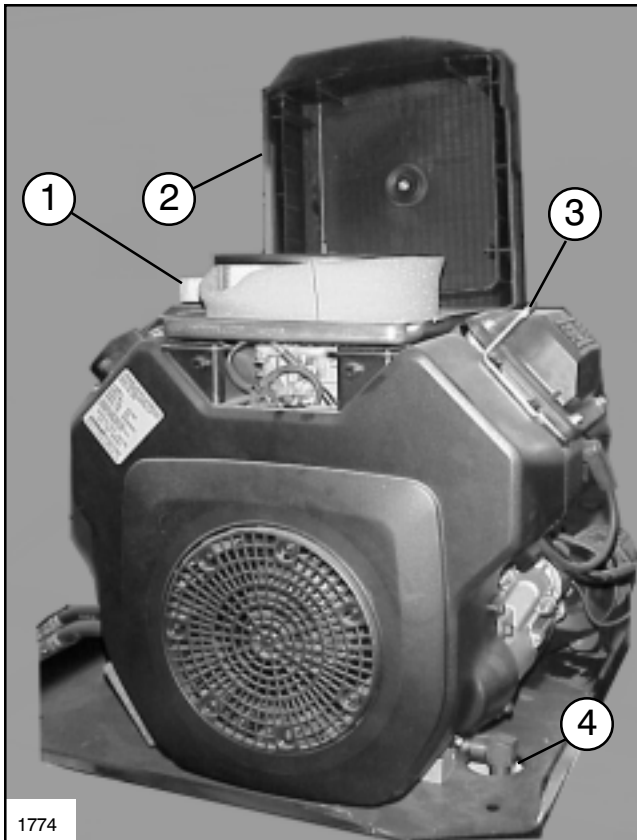
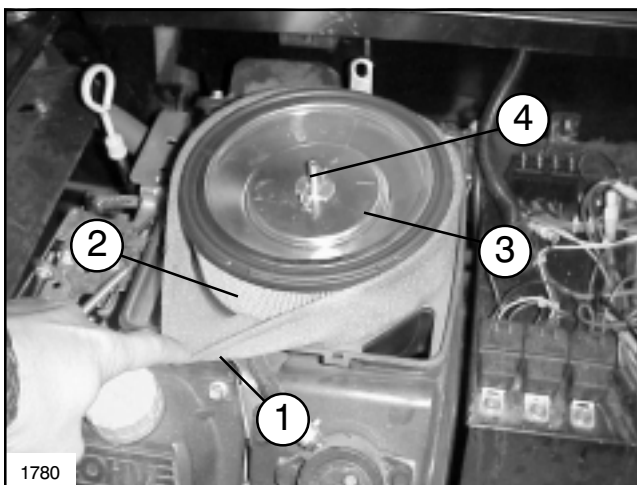
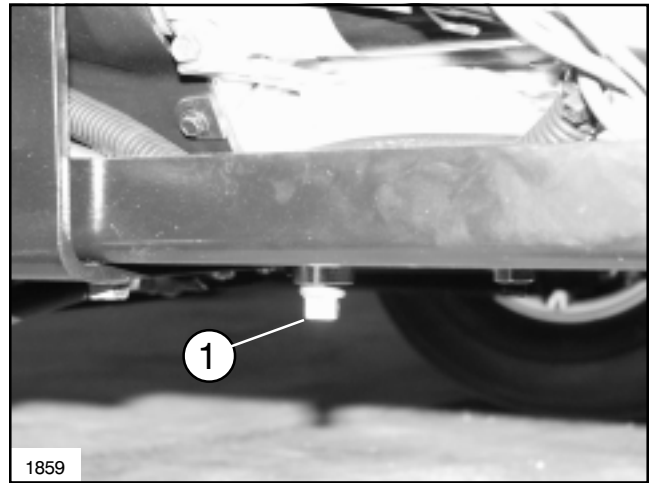

FIG. 12
FIG. 13
FIG. 17
1. Remove wing nut and Air Cleaner Cover. (See FIG. 12)
2. Remove the precleaner (FIG. 13) from the paper element and wash in warm water with detergent. Rinse the precleaner thoroughly until all traces of detergent are eliminated. Squeeze out excess water (do not wring). Allow the precleaner to air dry.
1. Remove the Air Cleaner Cover. (See FIG. 12) Remove the element cover nut washer, element cover and paper element with precleaner. (See FIG. 13)
1. Drain the oil from the engine crankcase. For Oil Drain location see FIG. 17, this page, or FIG. 12, page 35.